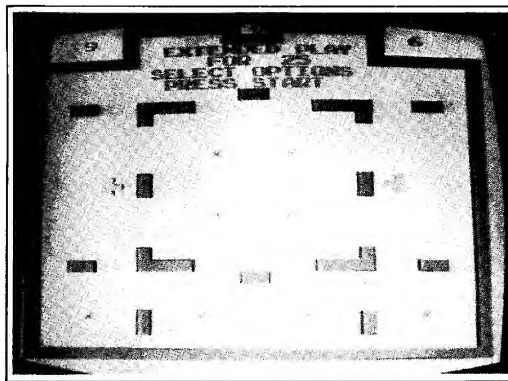

Figure 2-2 Ready-To-Play Mode
B. READY-TO-PLAY MODE (See Figure 2-2)